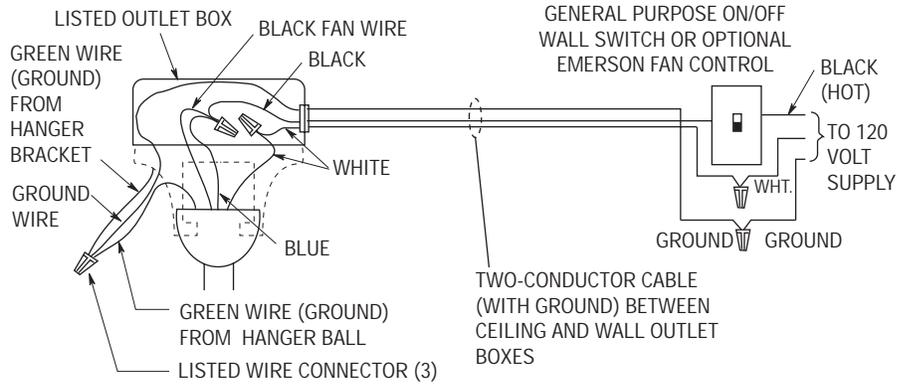

Figure 15
3. If you are going to use a single wall switch or optional Emerson fan control to control your ceiling fan, housing lights, and optional Emerson Light Fixture (if installed) simultaneously, you will need a standard two-wire (with ground) conductor cable between the ceiling and wall outlet boxes. The fan speed and the housing lights can then be operated from the pull chain switches in the switch cup housing (or by an optional Emerson fan control); the optional light fixture can be operated from the light fixture switch. Refer to Figure 15 and proceed as follows: